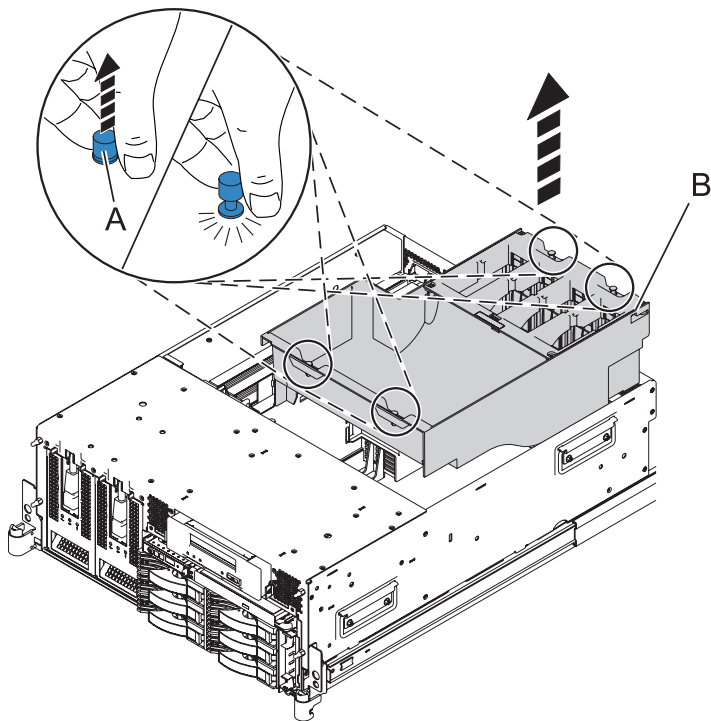

Figure 11. Removing the airflow cover from the 8203-E4A, 9407-M15, or 9408-M25 system
- 2) To remove the airflow cover (B), lift each of the four tabs (A) to release the cover, and lift the cover off of the system, as shown in Figure 11.